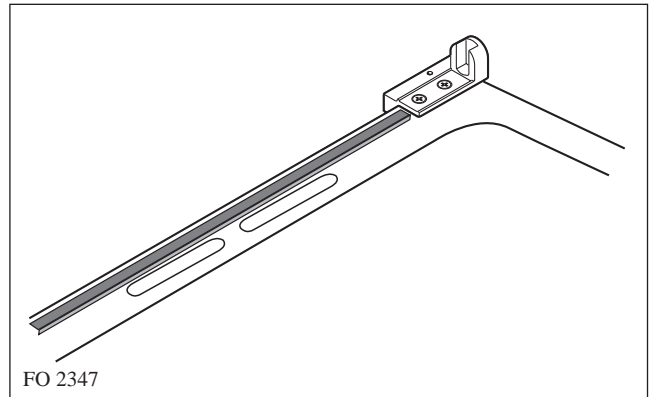

Fig. 4
3. After cleaning the hob from possible grease and film residuals left, fix the gasket on the rear part of the hob, paying attention not to close the fan slots (Fig. 4).